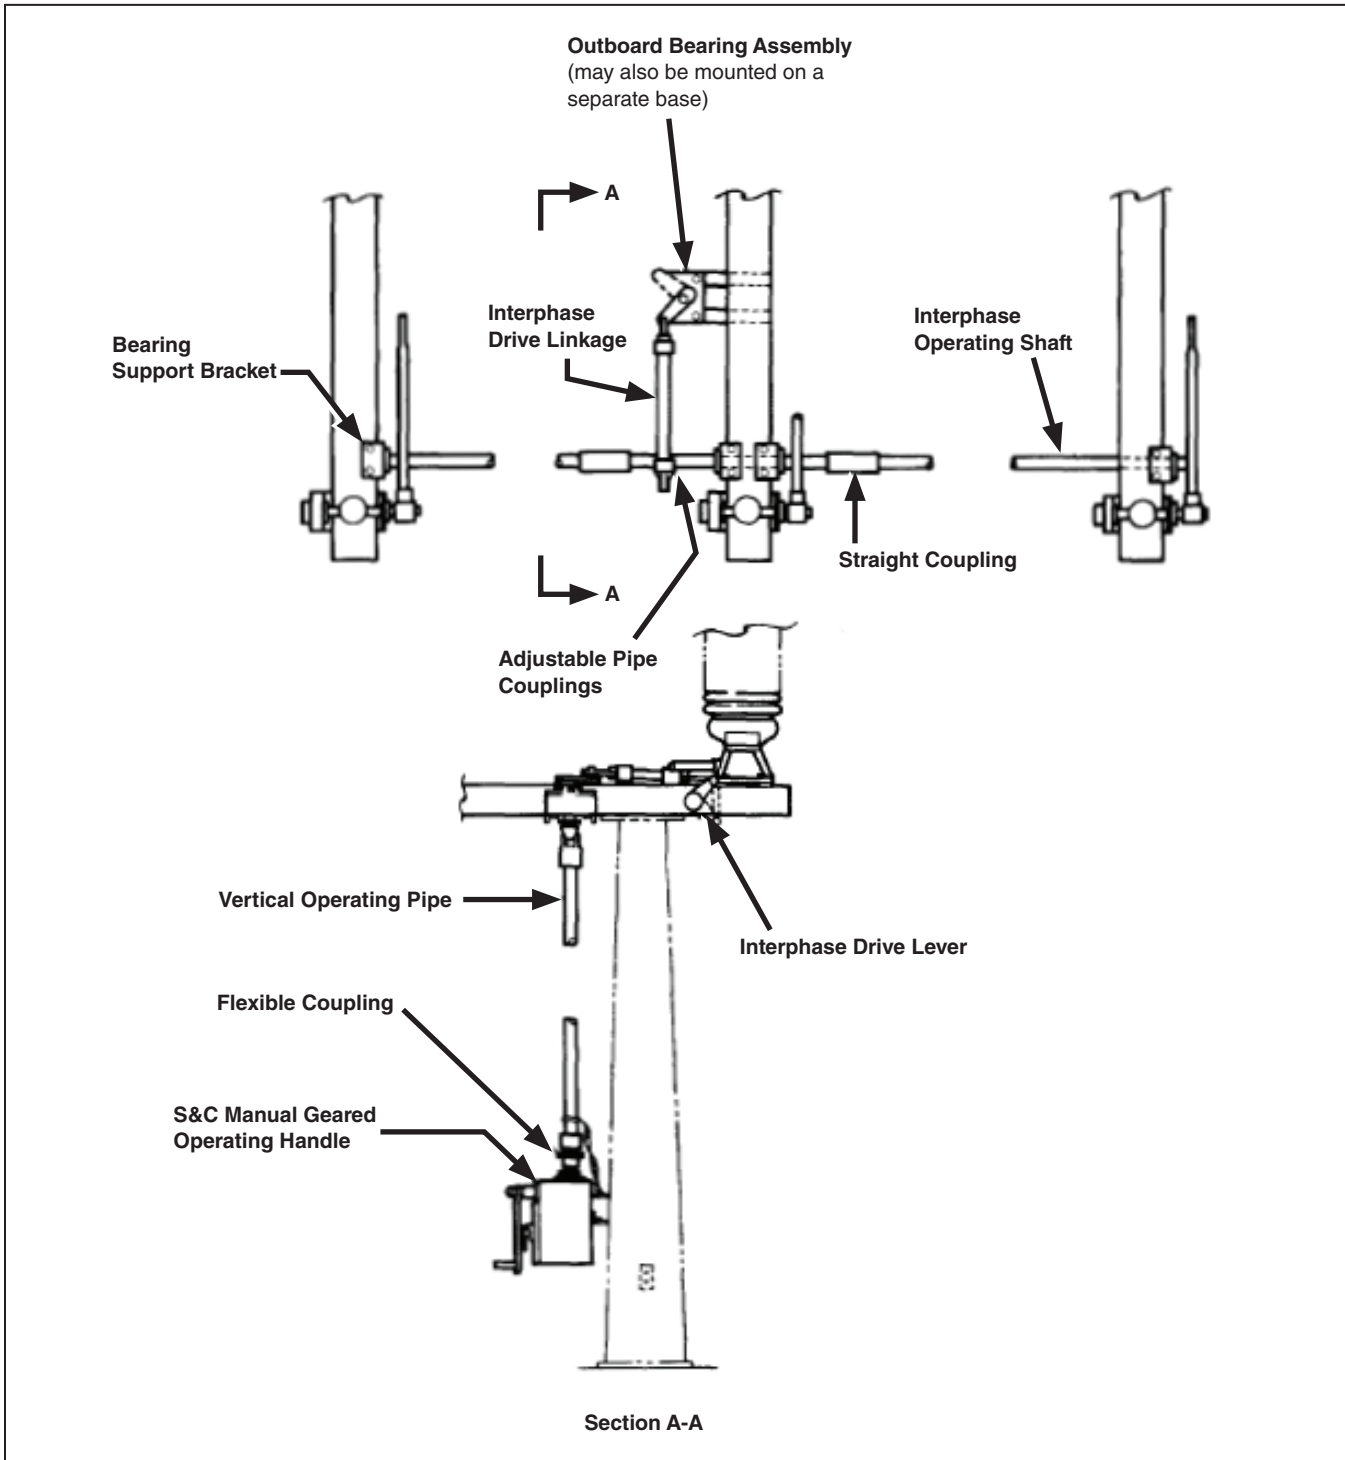

Figure 2. Typical grounding switch arrangement, shown for identification purposes. For the actual application refer to the erection drawing furnished.
STEP 3. Install the vertical operating-pipe section (or sections) and, if required, the guide bearing assembly (or assemblies) between the universal coupling at the outboard bearing assembly and the flexible coupling at the handle. Work from the outboard bearing assembly downward. See Figure 2 on page 8 and Figure 3 on page 9.